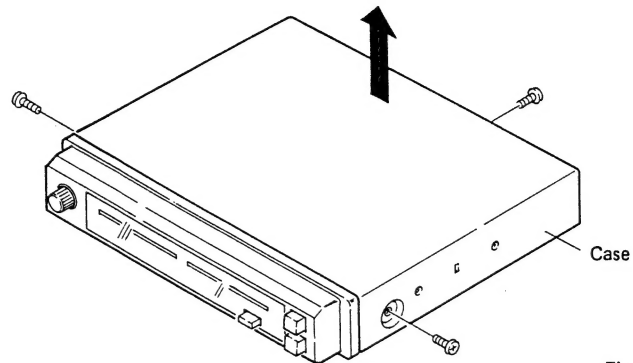

Fig. 4
1. Remove the three screws shown, then remove the case in the direction indicated by the arrow (Fig. 4)